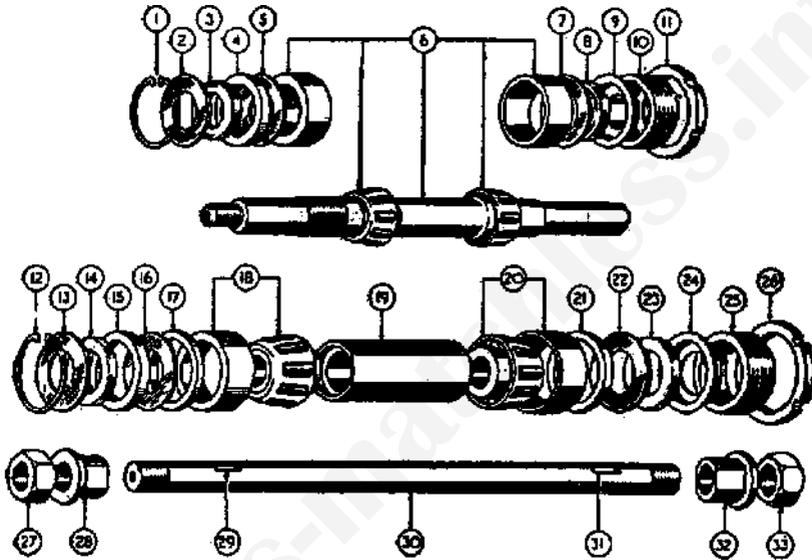

FIG. 37.—EXPLODED 1950-54 FRONT AND REAR HUB BEARINGS.
ADJUSTABLE taper roller bearings are used for both wheels, the arrangement of which is shown in Fig. 37. The rollers run on bearing sleeves at each end of the hub; the sleeves are a close fit in the hub. The bearing sleeve at the adjusting end can be moved, to either increase or decrease the amount of end play, by altering the position of the adjusting ring. If this type of bearing is pre-loaded, or tightly adjusted, a crushing action on the rollers will take place, causing overheating, with serious damage. A little end play in the bearing is therefore of vital importance.
First refer to Fig. 37 for assembly arrangement, which will also indicate the order in which parts should be removed. Remove the front wheel and the cover plate, together with the brake shoes. Slacken the lock-ring (11). Completely unscrew the adjusting ring (10) with the lock-ring attached. The bearing sleeves are a close fit in the hub, pressure must be applied on the threaded end of the spindle to force out, from adjusting side of the hub, the oil-seal cup (9), oil seal (8), metal washer (7), together with the spindle bearings and sleeve. With left side of hub uppermost, press down on the washer behind the circlip to remove the circlip. Turn the wheel over, apply pressure on the inside end of the bearing sleeve (6), to force out the oil-seal washer (2), oil seal (3), spacer collar (4) and plain washer (5). To reassemble, reverse dismantling procedure, remembering to leave space between the bearing sleeve and slot for the circlip. When the circlip is fitted, press the bearing sleeve up against the circlip. Adjust the bearing as previously described.
First refer to Fig. 37 for assembly arrangement, which will indicate also the order in which parts are removed. Remove the rear wheel, cover-plate with shoes, spindle with cams and all parts external to the hub. From the brake-drum end of the hub, slacken the lock-ring (26), and unscrew the adjusting ring (25). Now follow the procedure described for dismantling the front-wheel bearing.